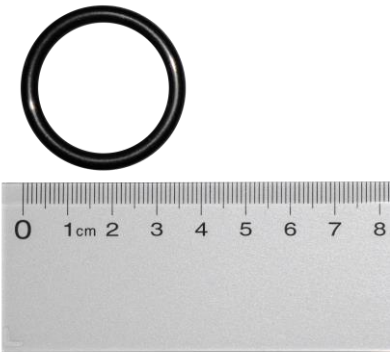

Fig. 3
- Replacing all O-rings. Fig. 3.